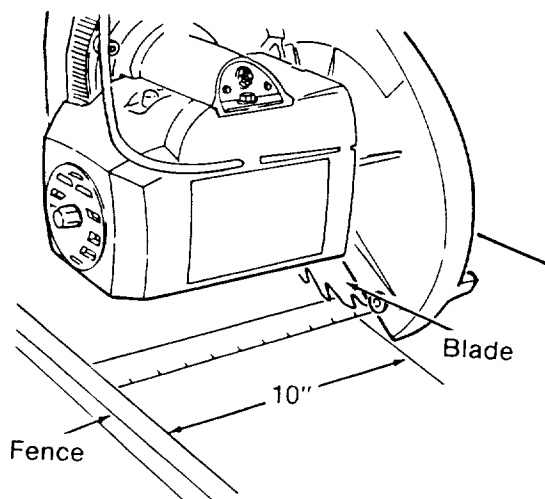

Fig. 132 - Out-Rip Reference
7. Move the *motor* until the *blade* is 10 inches in front of the *fence*. Use a framing square, ruler or tape measure to measure this distance. (Figure 132)